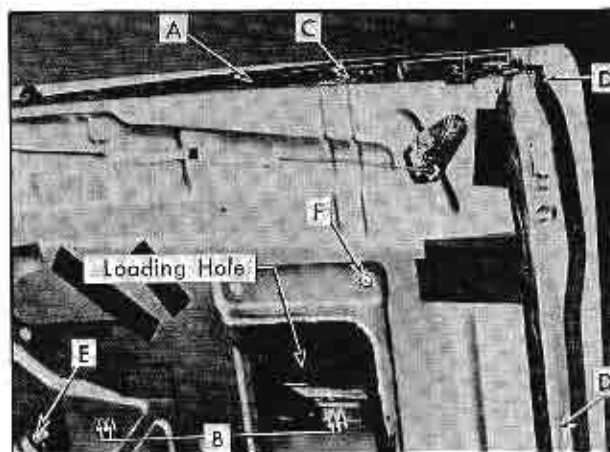

Fig. 3-38 Door Window Assembly (Coupe)
1. To adjust upward limit of glass travel, remove door belt finishing molding, loosen nut and turn stop "C", Fig. 3-38 up or down as required; then tighten nut.
Loosen glass run channel attaching screws "D" at the door lock pillar. Fig. 3-38.
2. Remove the inner draft strip assembly "A", Fig. 3-38, with attached window stop.
5. Remove the four screws "B", Fig. 3-38, securing window assembly to regulator cam.
2. Remove the glass run channel attaching screws "D" at door lock pillar. Fig. 3-38.
**(38) Rear Door Window Glass Adjustment, Removal and Installation****a. Adjustment**